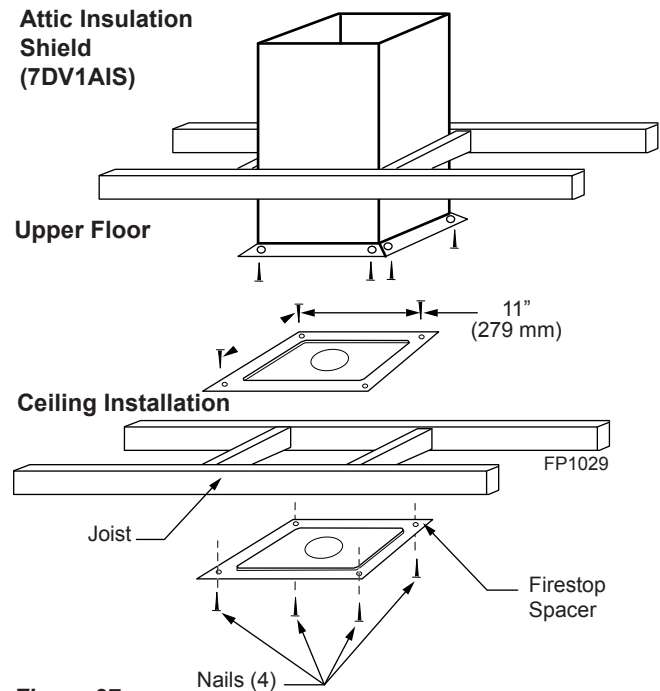

Figure 37 - Place Firestop Spacer(s) and Secure
- 7DVCS supports offsets. *Figure 37*. This application will require that you first determine the roof pitch and use the appropriate starter kit. (Refer to Venting Components List)
6. Place firestop(s) or Attic Insulation Shield into position and secure. *Figure 37*